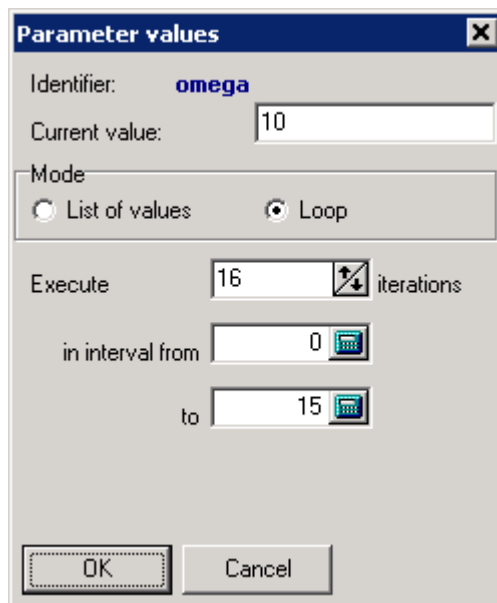

Figure 2.10. Frequency of the exciting force
5. Set the **Mode** to **Loop**, set the rest parameters as it is shown in the Fig. 2.10. Press **OK**.